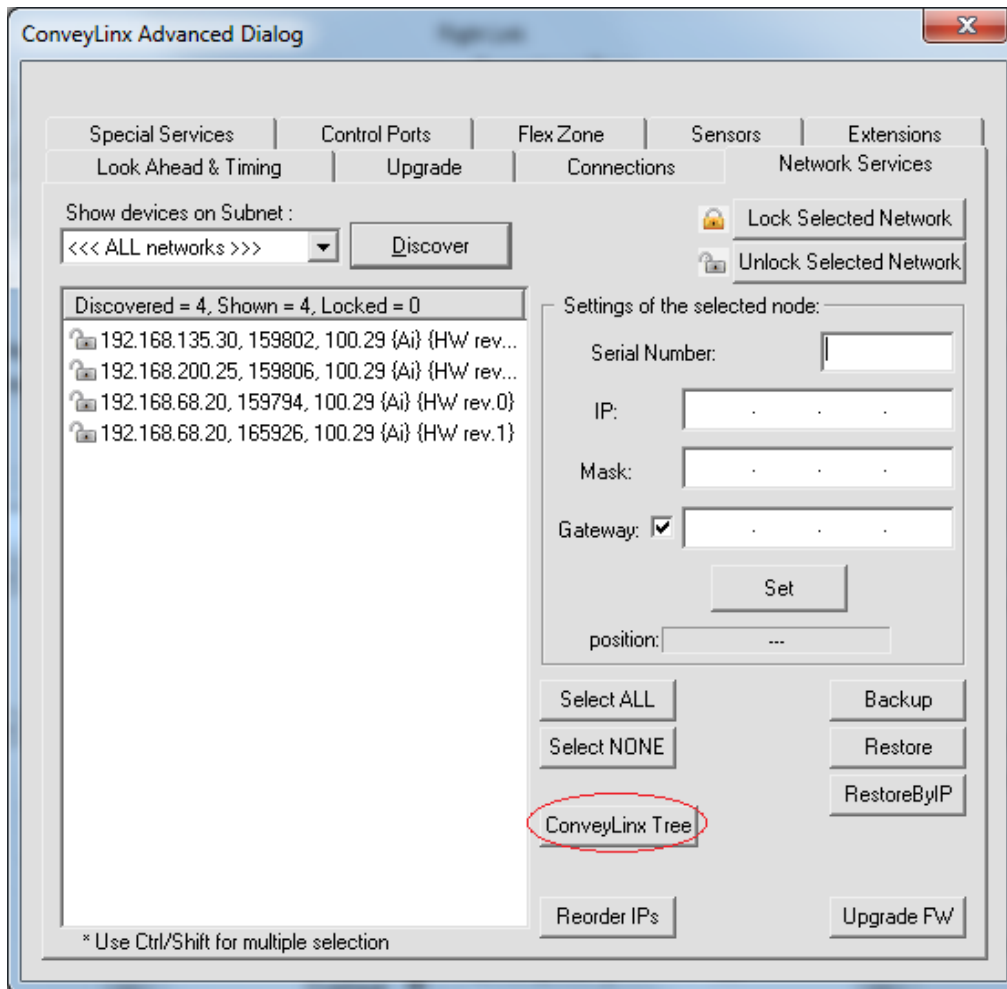

FIGURE 19 - DISCOVER PROCEDURE ON CONVEYLINX-AI MODULES
2. When the ConveyLinX Ai modules appear in the module table, select the ones that you want to configure and click "ConveyLinX tree" as shown in Figure 19.